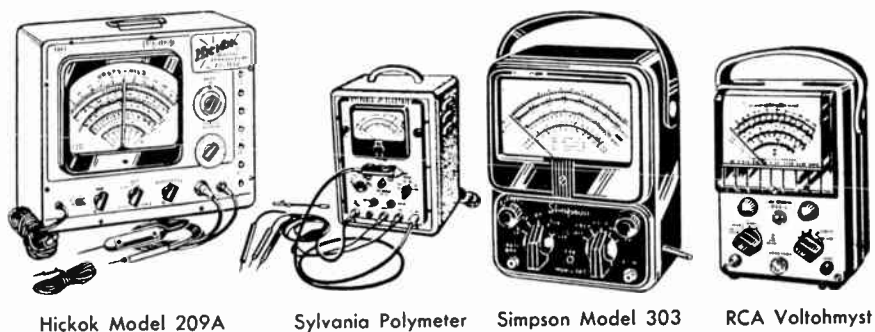

Fig. 3. Examples of good electronic multimeters, well worth considering after getting established in a servicing business
**Electronic Multimeters.** Another type of multimeter you may want to consider later for bench use and even for television work in homes is one of the electronic multimeters shown in Fig. 3. These are also called electronic volt-ohmmeters, vacuum-tube voltmeters, and vacuum-tube volt-ohmmeters. Each has one or more vacuum tubes and hence must have a source of power for filament and plate voltages. Some of these electronic multimeters operate from the a-c line, while others have batteries for portable use just as in portable radios.